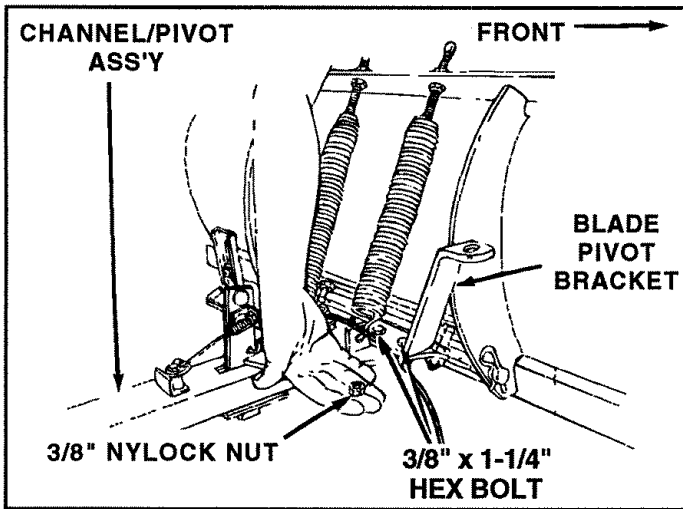

FIGURE 14
- Assemble blade pivot bracket on to top right hand side of channel/pivot assembly. See figure 14. Assemble two 3/8" x 1-1/4" hex bolts down through bracket and plate and secure with two 3/8" nylock nuts underneath.